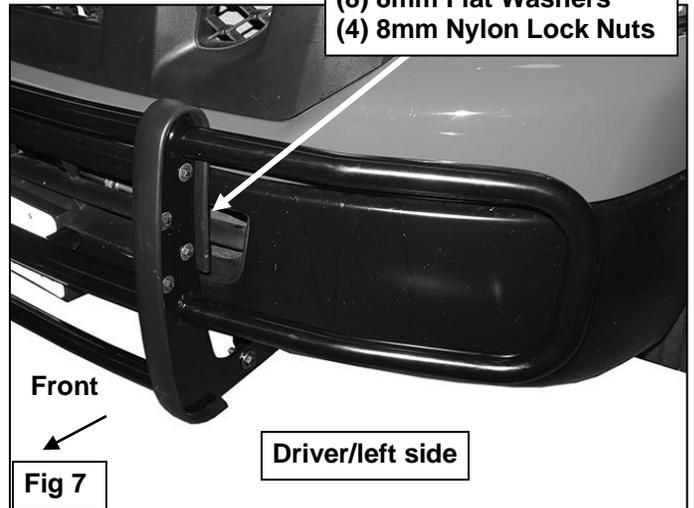

Fig 7
6. Next, select the driver side outer Wing. Attach the Wing to the Center Section with (4) 8mm x 30mm Hex Bolts, (8) 8mm Flat Washers and (4) 8mm Nylon Lock Nuts, (**Figure 7**).